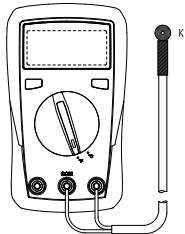

Figure 5
9. Temperature measurement (only for UT131C, see Figure 5)